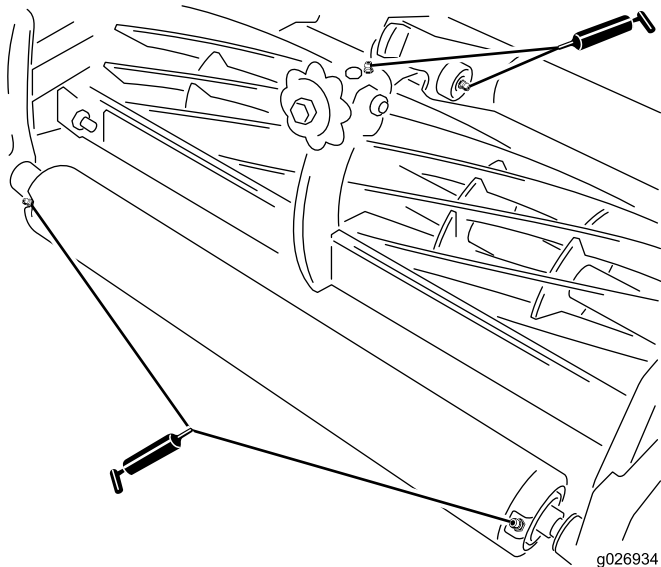

Figure 12
Each mower has (4) grease fittings (Figure 12) that must be lubricated every 8 hours of operation with Heavy Duty 2 wheel bearing grease.